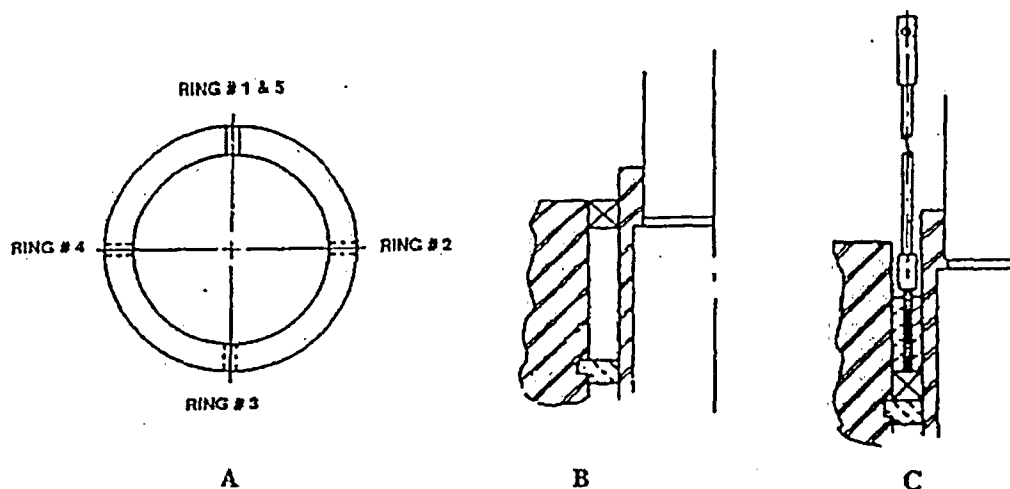

FIGURE 3-4 PACKING INSTALLATION
When installing packing rings, stagger the joints 90° from each other as shown in Figure 3-4-A.
3. (See Figure 3-4-B). Insert one ring of packing, pressing by hand to point of maximum entrance.
4. (See Figure 3-4-C). Insert spacer ring, with packing tool attached, and press on the packing tool handles to guide and tamp the packing ring solidly and squarely into position.